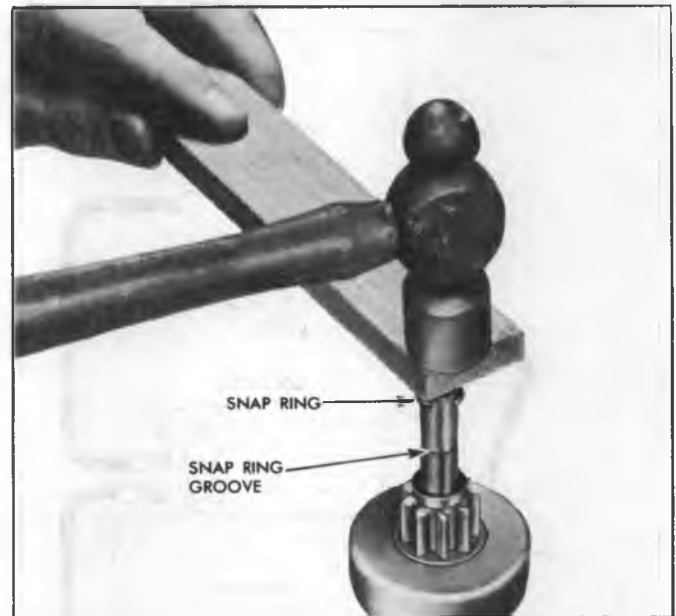

Fig. 9S--Forcing Snap Ring Over Shaft
- Tap wood block with hammer forcing snap ring over end of shaft (fig. 9S). Slide snap ring down into groove.